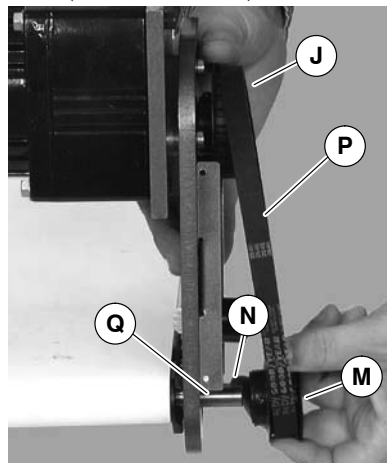

Figure 10
5. Install key (N of Figure 10).